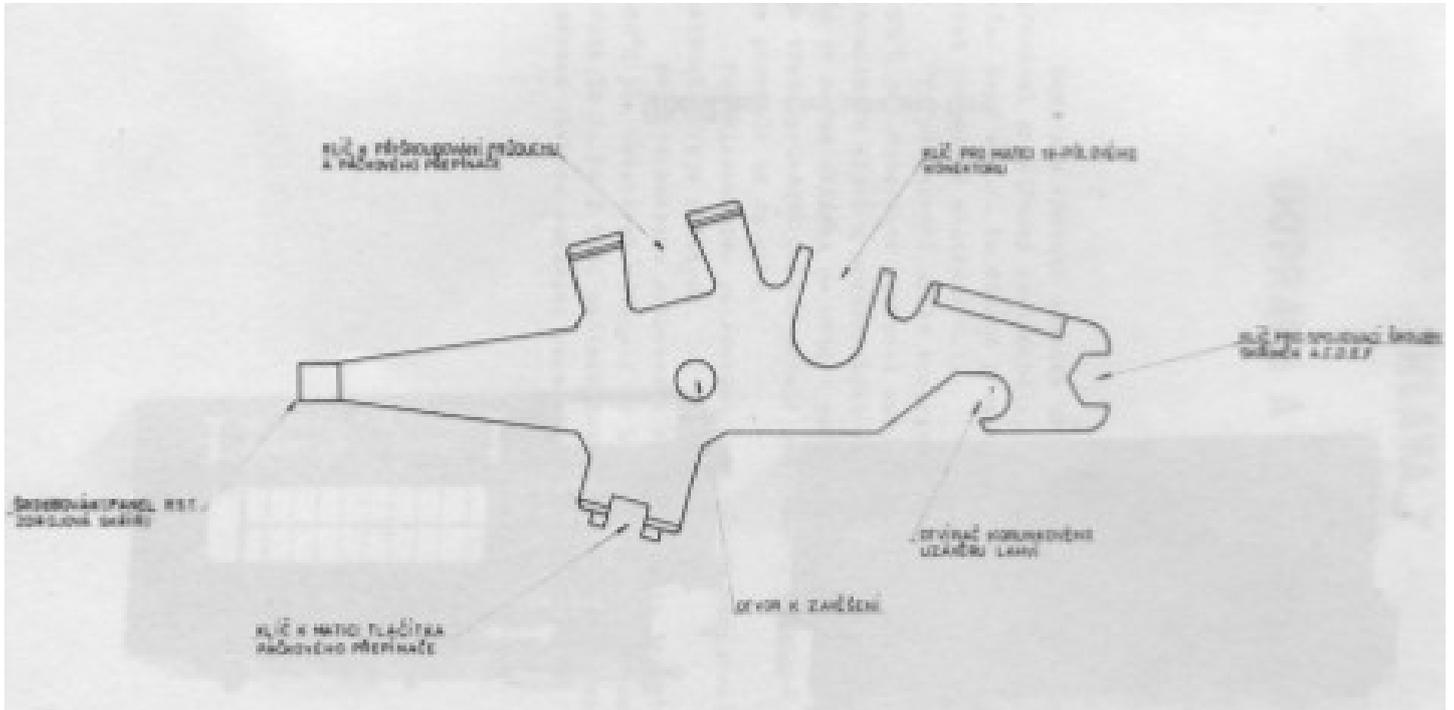

Figure 24: Special key
9. A special key is provided in the box of the spare parts set (fig. 1, item 15). The use of this key while maintaining the set assembly is evident from fig.24.